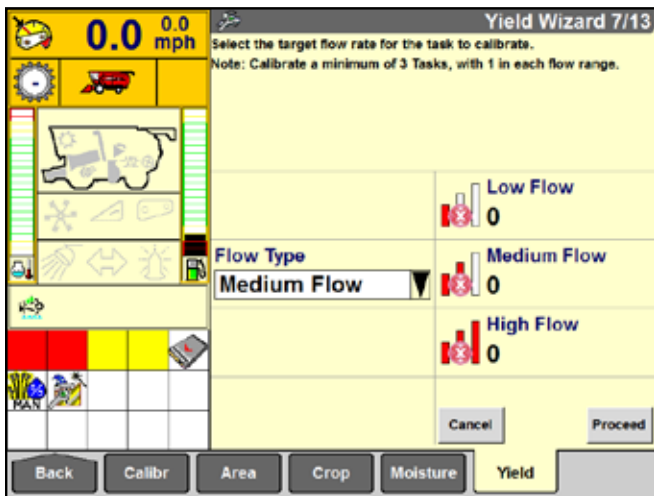

Figure 19.1
- Harvest separate loads at high, medium and low target throughput flow rates (see figure 19.1)